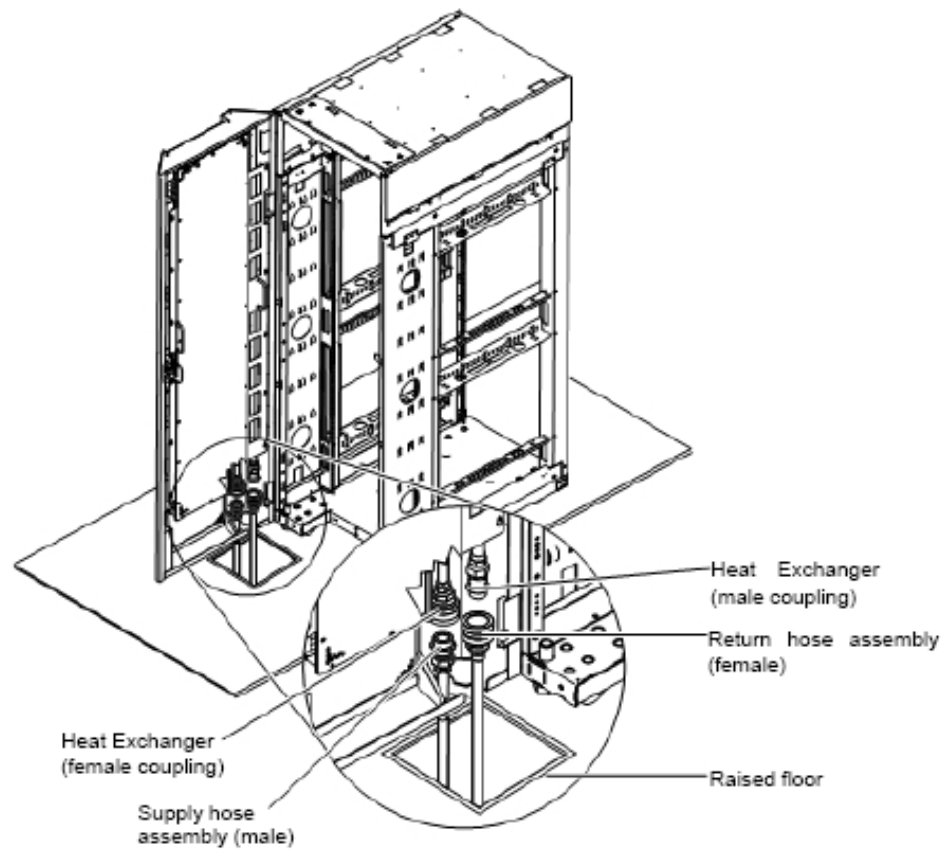

Figure 8. Raised floor hose management example 1; hose exit through floor tile at the door hinge
2. When routing hoses under raised floor tiles using a bottom-fed RDHx, straight hoses or right angle hoses may be used. The bottom-fed RDHx requires a cutout in the 600mm x 600mm or 24" x 24" floor tile behind the enclosure when using straight hoses. The cutouts in the raised floor tiles should be properly sealed with raised floor grommets to prevent air leakage and cover sharp edges. The corner of the cutout is placed directly under the hinge side of the enclosure rear door. The opening of the cutout is recommended to be at least 152mm wide x 190mm long (6" x 7.5") in the direction parallel to the RDHx. See Figures 8 and 9. Please note stringer-less raised floors may not be able to use this method.